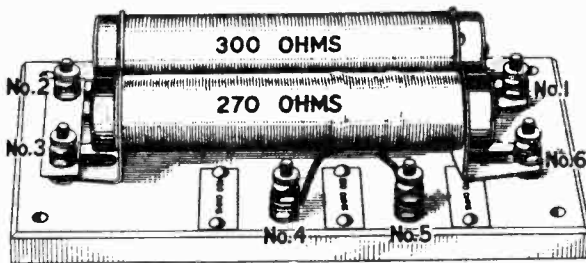

Fig. 2—200-230 Volt Resistor Unit
2. Operation of Universal Motor on 200-230 volts—Fig. 2 shows the 200-230 volt resistor unit, part 19193. The following table gives the resistance combinations of this unit to be used with different voltages: